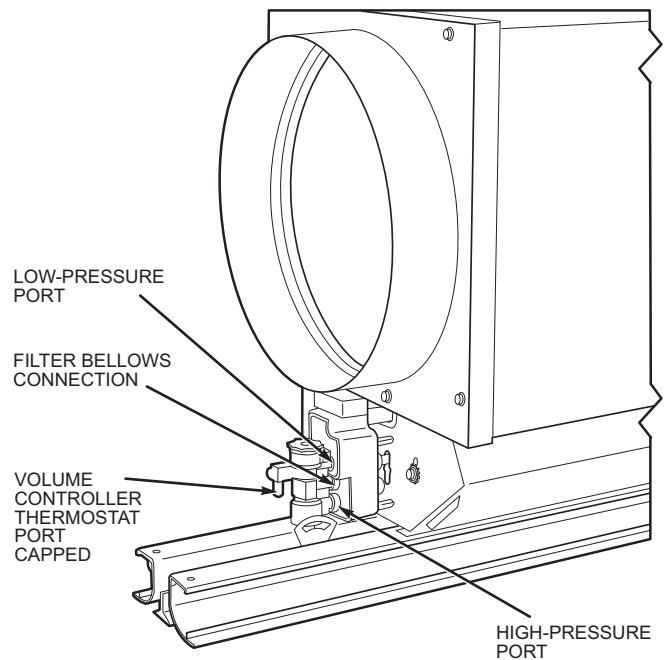

Fig. 36 — Constant Volume Control Installed on Unit
6. To complete installation, moisten the O-rings of the volume controller with water and push the volume controller directly into the control filter. See Fig. 36 and 37.